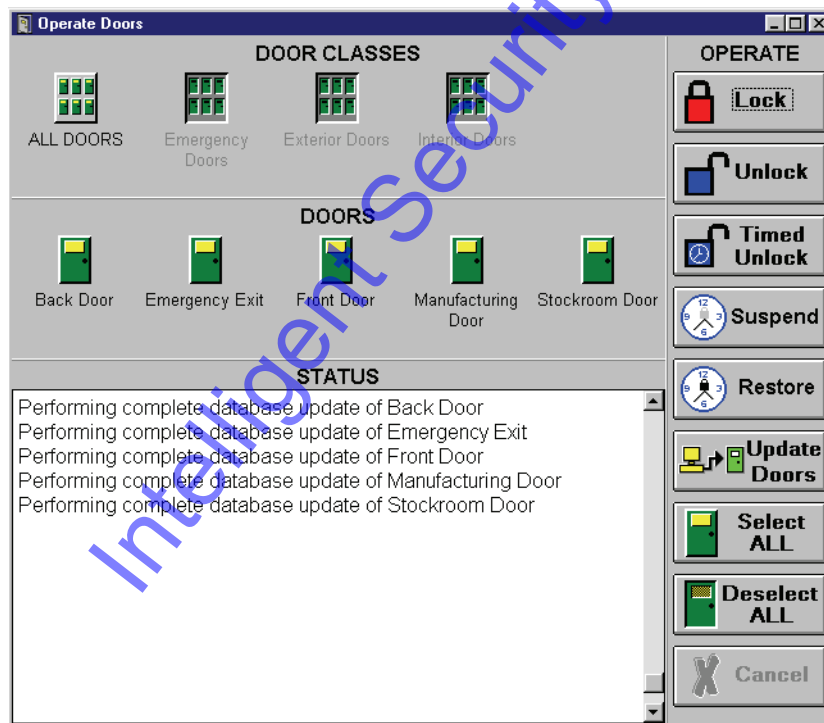

Figure 6-24: Update All Doors
3. Once the complete data transfer process is complete, the resulting window should look similar to Figure 6-24.